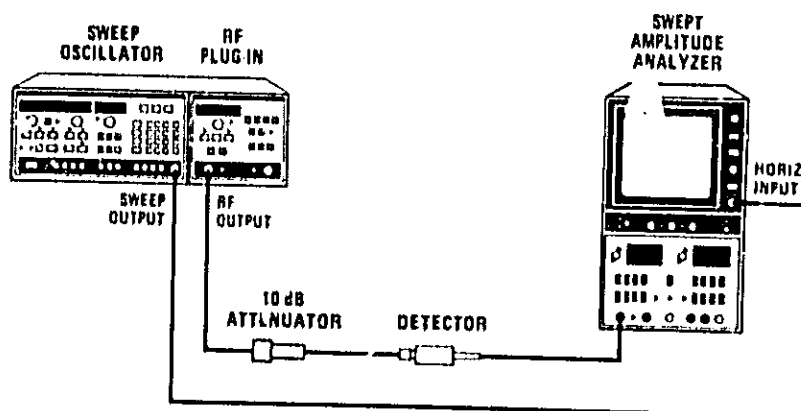

Figure 5-19. Internal Leveling Adjustment Setup
1. Reinstall the A5 FM Driver Assembly. Connect equipment as shown in Figure 5-19, with the 8755C monitoring the RF output. Select 8350A  MOD . Sweep the full range of the plug-in.